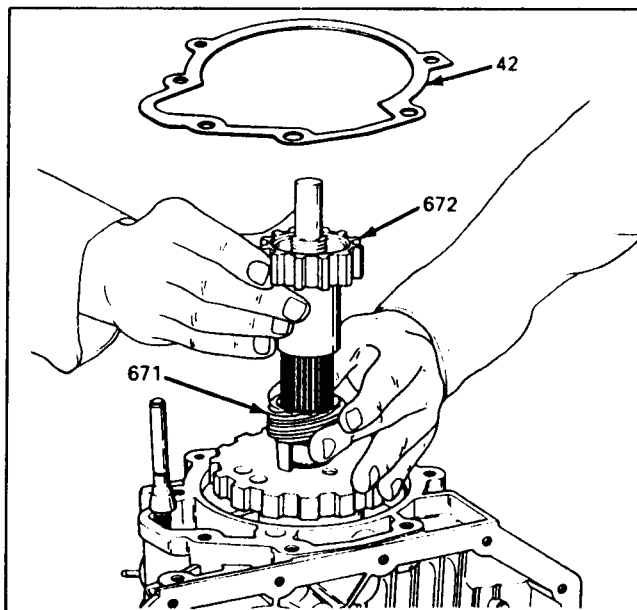

Figure 116
3. Install extension housing gasket to the main case, and retain with a small amount of petrolatum (Figure 116).
4. Install speedometer drive gear, as shown in Figure 116. Speedo drive gear is not used on all models.
5. Install speed sensor rotor, as shown in Figure 116.